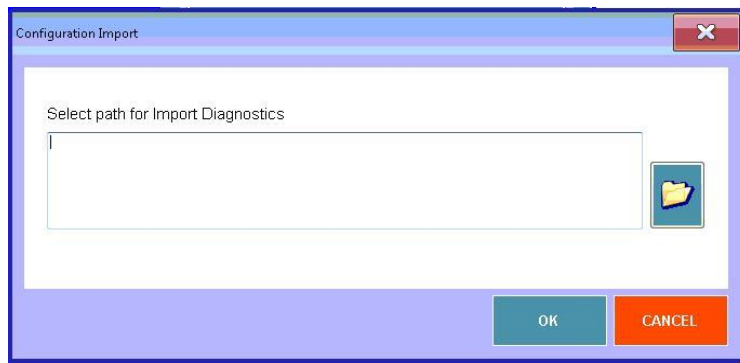

Figure 10.46 – Configuration Import Path
- 2) Click the **Configuration Settings Import** button and navigate to the location you saved the configuration files to. See figure 10.46 below.